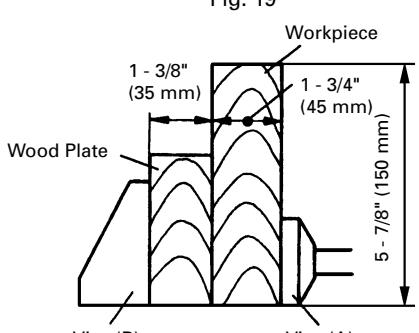

Fig. 20
- (2) Fig. 20 shows the dimensions of a wide workpiece to be cut at an angle of 45°.